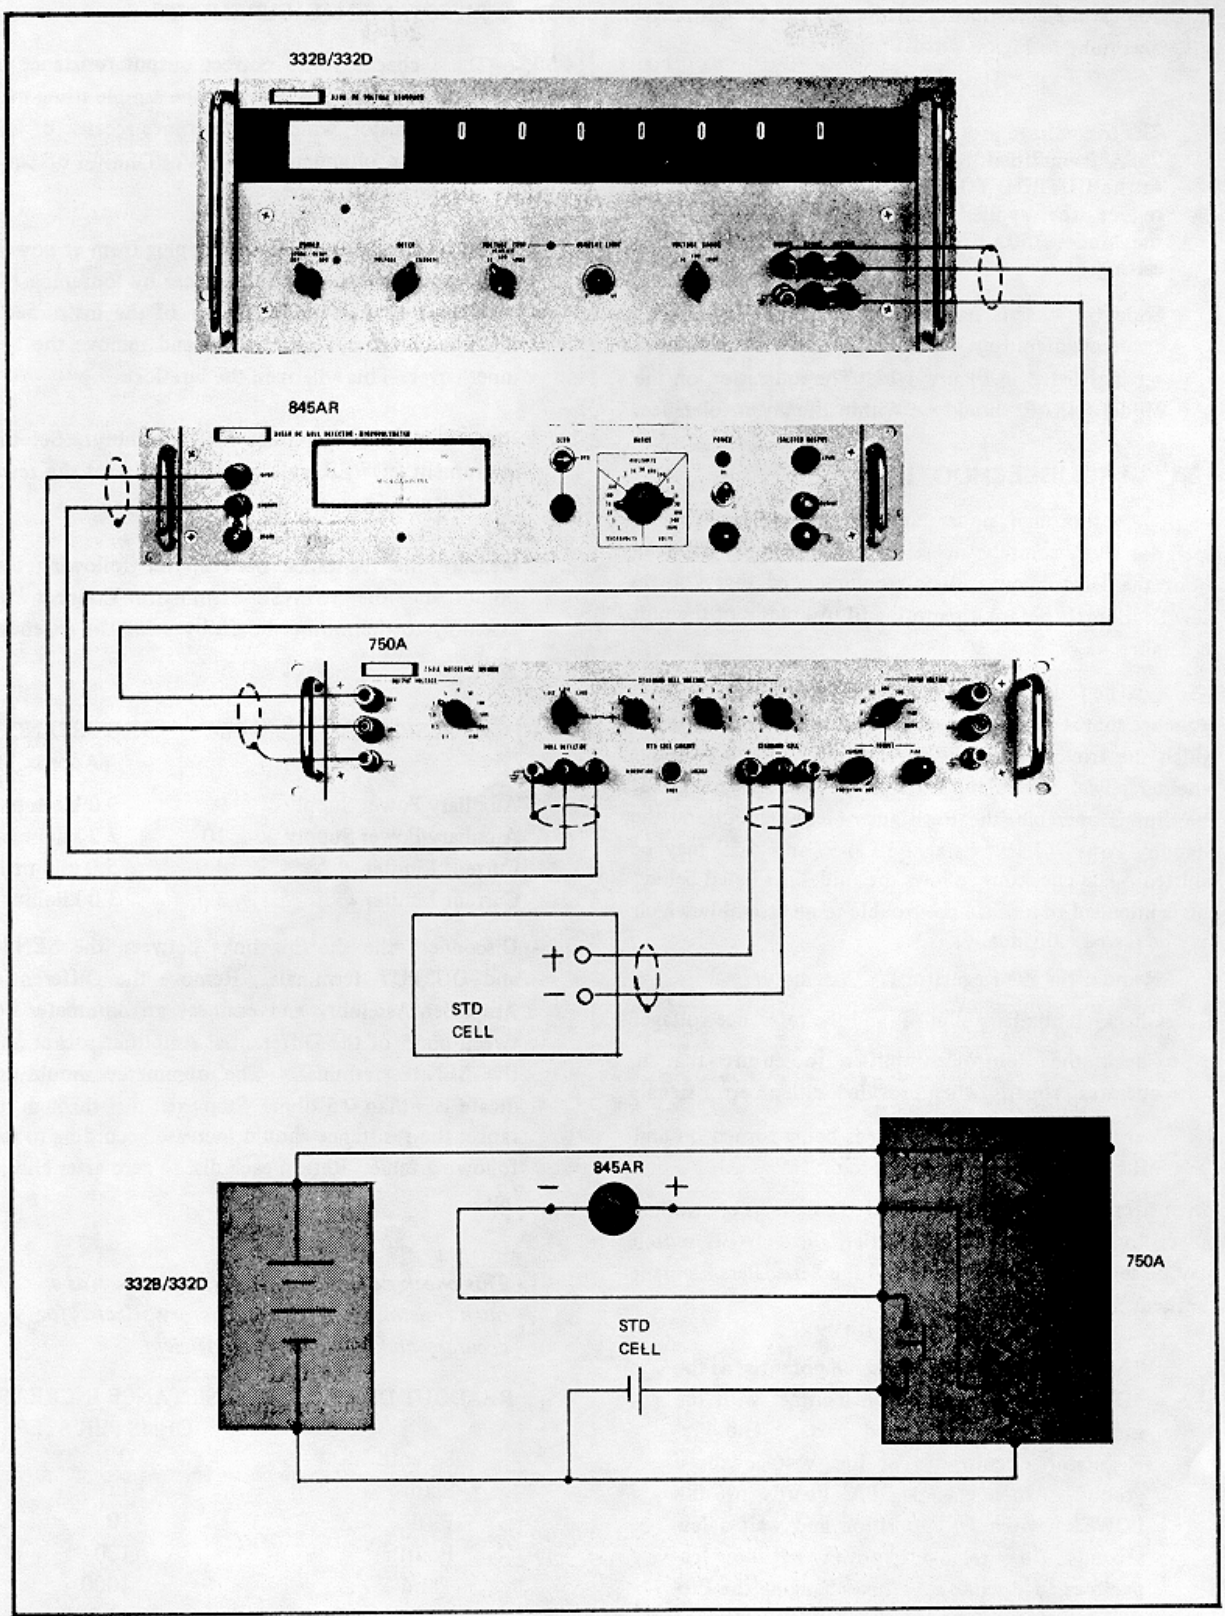

Figure 4-13. CONNECTIONS FOR RANGE CALIBRATION
- a. Connect the equipment as shown in Figure 4-13. Use low-thermal (copper) leads with spade lugs; the leads should be as short as possible.